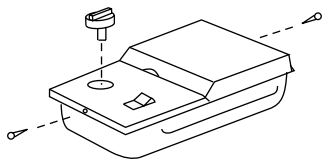

Figure 22
Make sure side burner is OFF. Remove valve control knob and screws. Remove porcelain top. Figure 22.
- f) Reinstall the side burner cover. Figure 22.